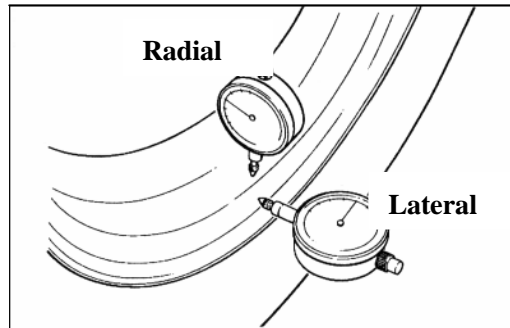

Fig.15-1
5. WHEEL RUNOUT CHECK (see Fig.15-1)